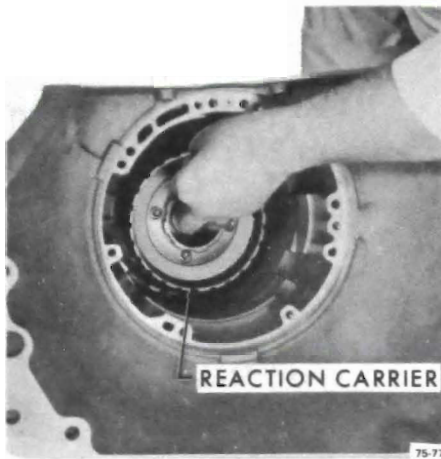

Figure 75-250
5. Install output shaft and reaction carrier assembly into case. See Figure 75-250.